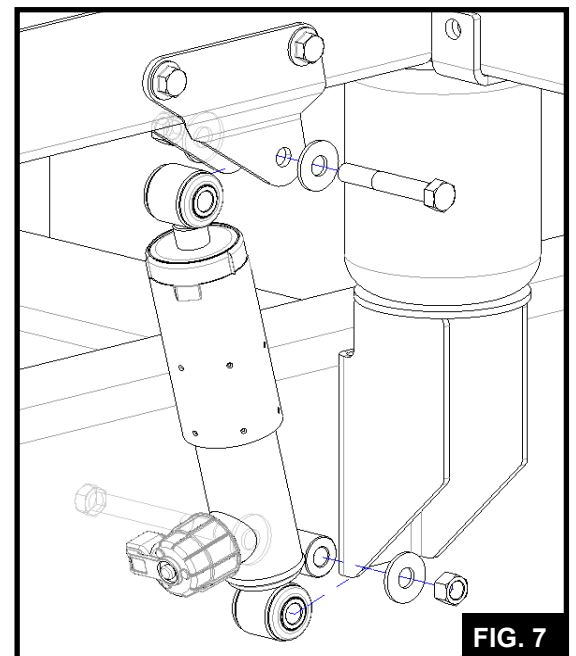

FIG. 7
Mount the (2) cab bracket plates on the driver side of the cab using the (2) M12 bolts removed in step 6.3 and the (2) M12 flange nuts provided (FIG.7).
Mount the shock in between the cab bracket plate using the (1) 1/2 X 3 1/4 bolt, (1) 1/2 lock nut and (2) washers provided (FIG.7).
Mount the shock to the frame using the (1) 1/2 X 4 1/2 bolt, (1) 1/2 lock nut, (2) washers and (1) spacer bushing provided. The spacer is placed between the frame and the shock (FIG.7).